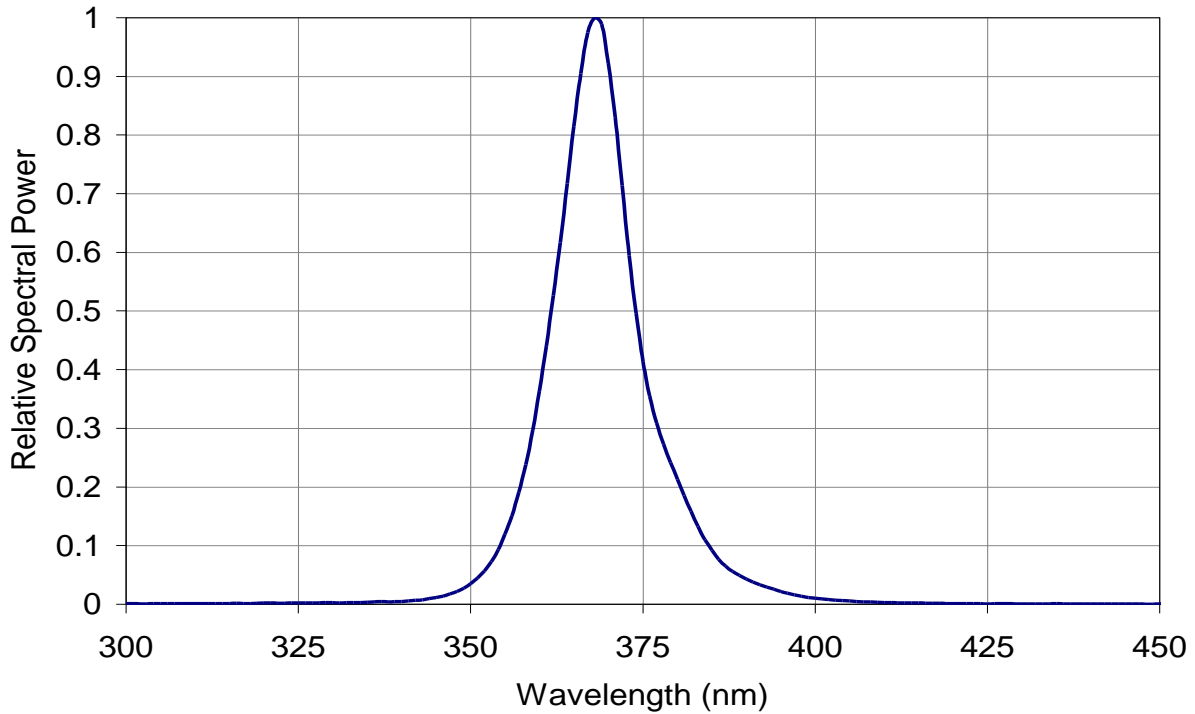

Figure 5: Typical relative spectral power vs. wavelength @ T_c = 25°C
- Solder conditions per JEDEC 020D. See Reflow Soldering Profile Figure 5.